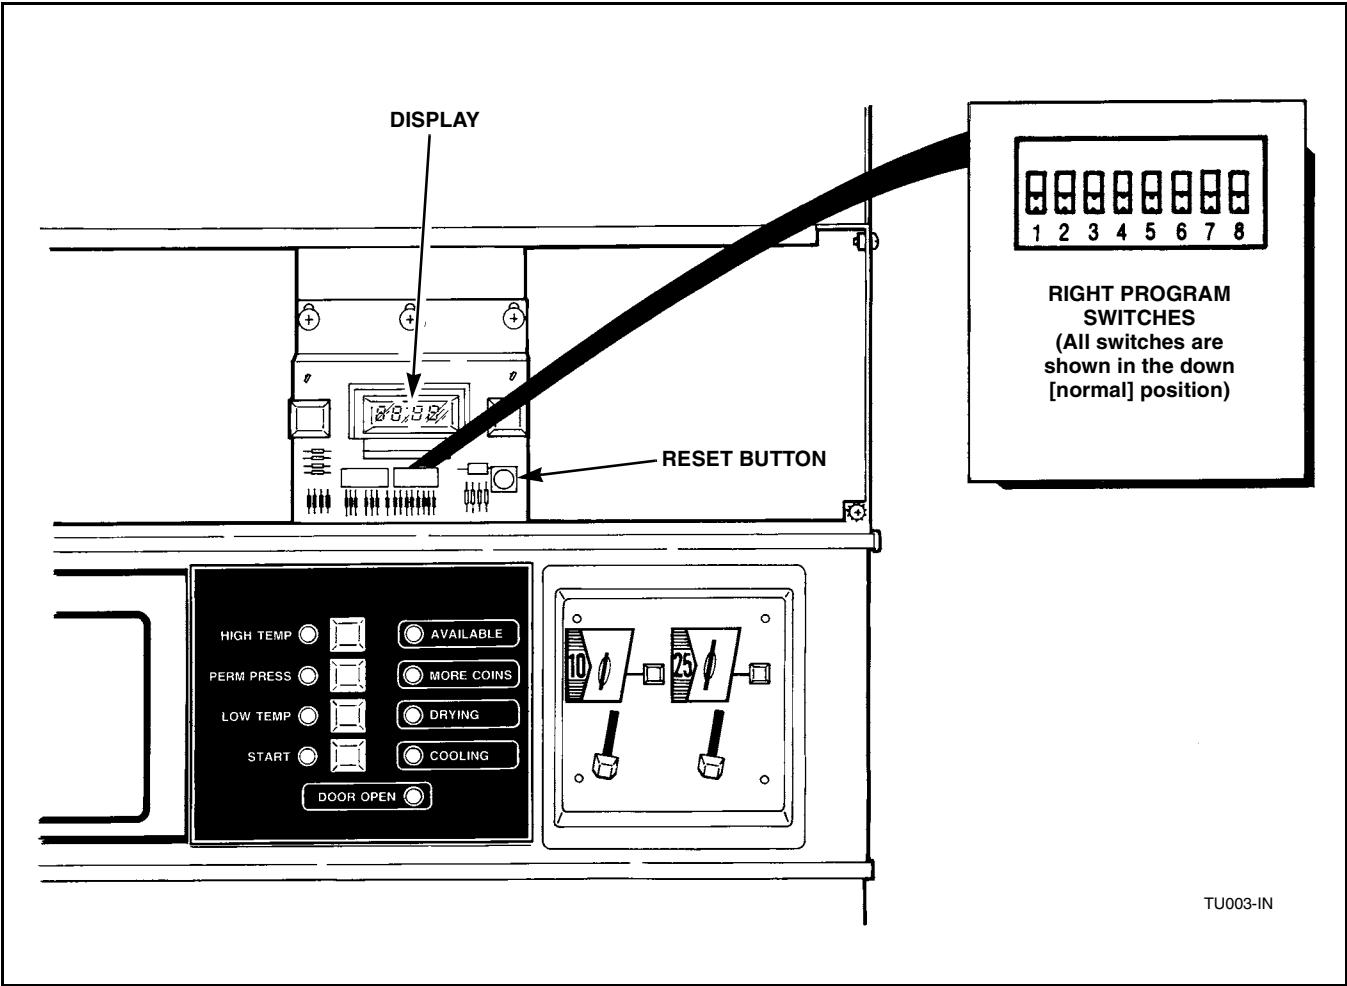

Figure 47
- b. Slide right program switch lever number 1 up, refer to *Figure 47*, leave all the other right program switches down. The START and PERM PRESS lights will be lit and PC01, PC02, or PC03 will appear on the display.
- d. Heater relay closes causing the burner to come on, display will show rising temperature. Burner will operate for two minutes, or until the programmed PERM PRESS temperature is reached, plus five (5) degrees.